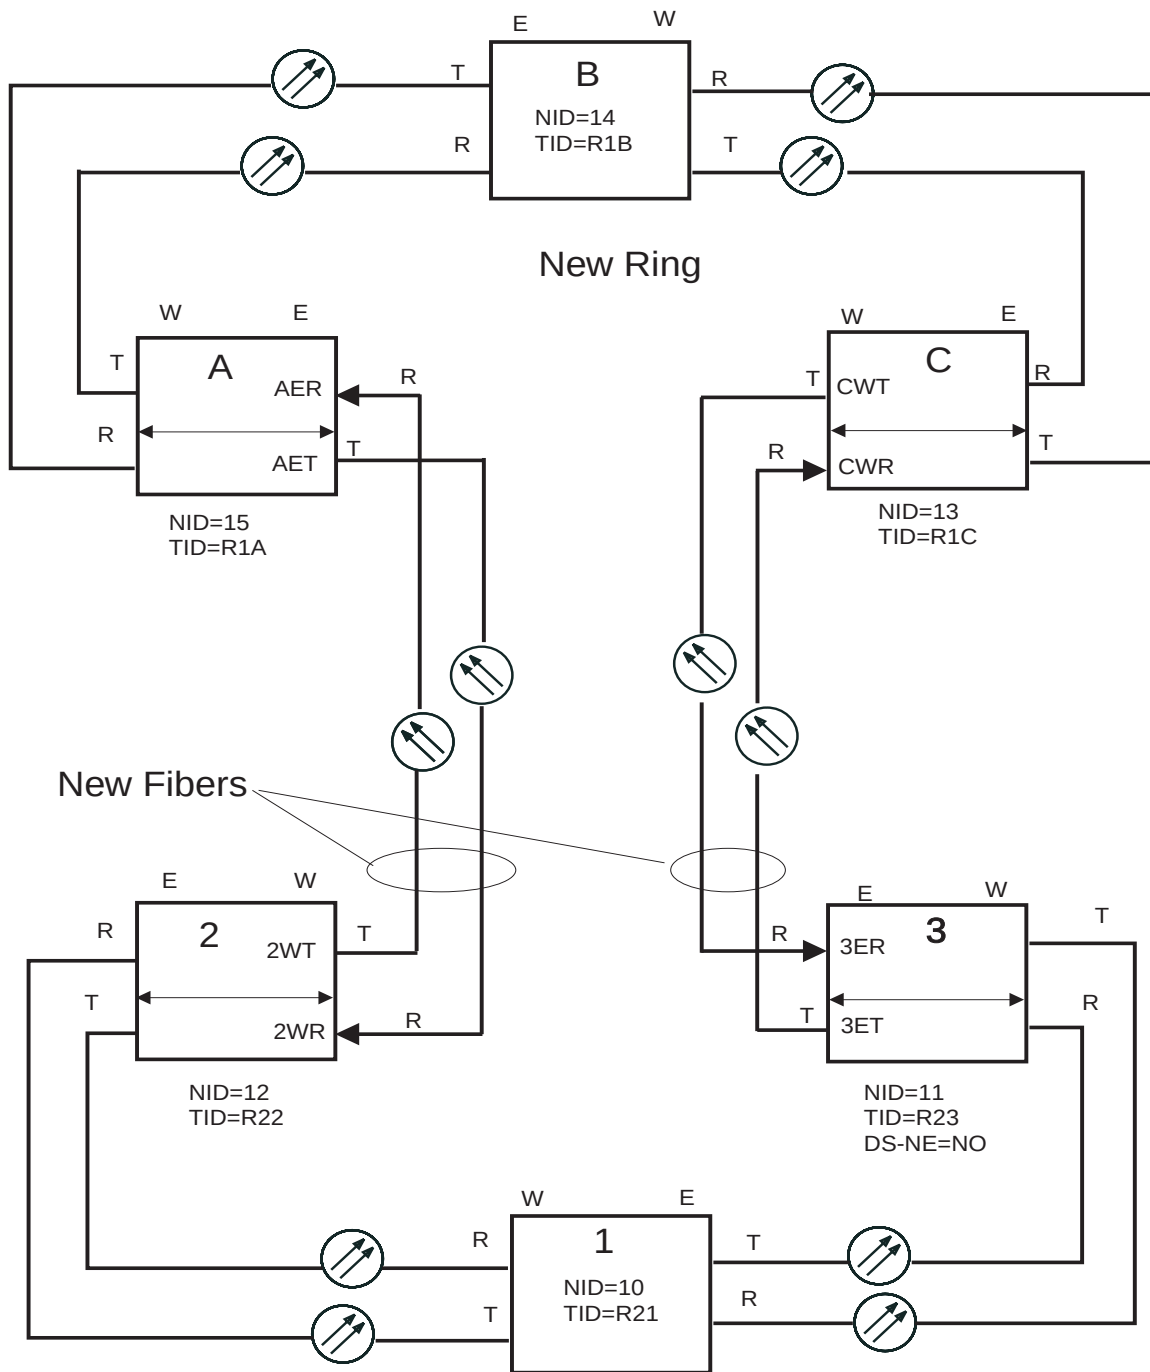

Figure 6 – Example Depicting Ring With Protection Switch Removed
31. From the CIT access each of the four nodes where fibers were changed and select **FAULT-Switch-Line:1W/1E:Reset** command to reset each node. Figure 6 is an example of what the ring should look like after the Protection Switch has been removed. —